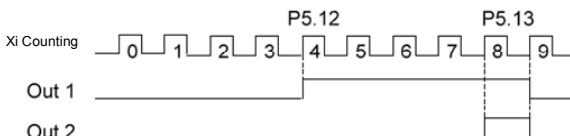

Figure 6-18 Schematic diagram for the preset and reaching counting value reference
2. The terminal Yi is set to “10: Preset counting value action”, and the action sequence is shown as Out1 in Figure 6-18. Effective level will be output when the counting value is between the values of P5.12 and P5.13.
Out2 in Figure 6-18. Effective level will be output and kept till the counting value changes when the counting value reaches the value of P5.13.